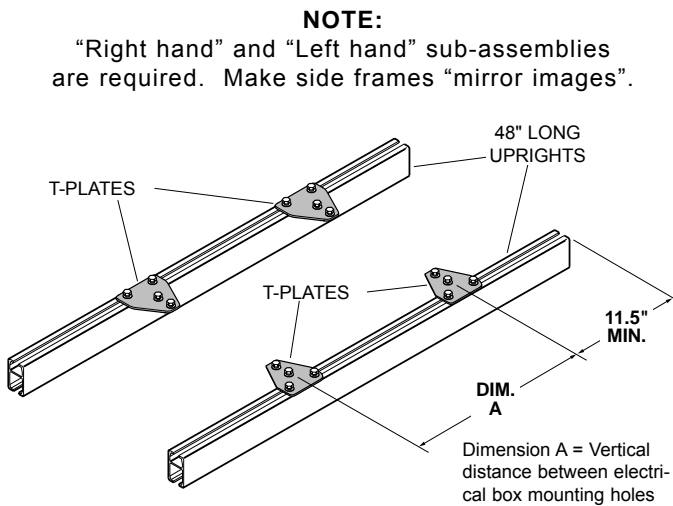

Figure 3.
3. Locate two 48" long uprights and four T-plates. Affix T-plates to uprights as shown in Fig. 3. Wrench tighten to secure.